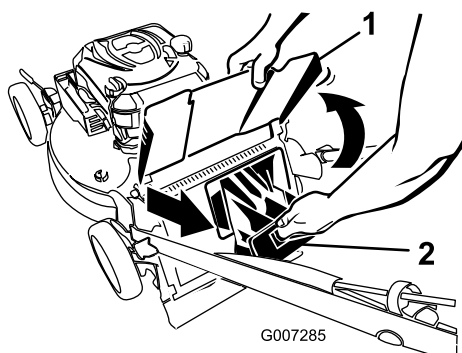

Figure 27
2. Raise and hold up the discharge deflector (Figure 27).
3. Pull out the rear discharge plug (Figure 27).